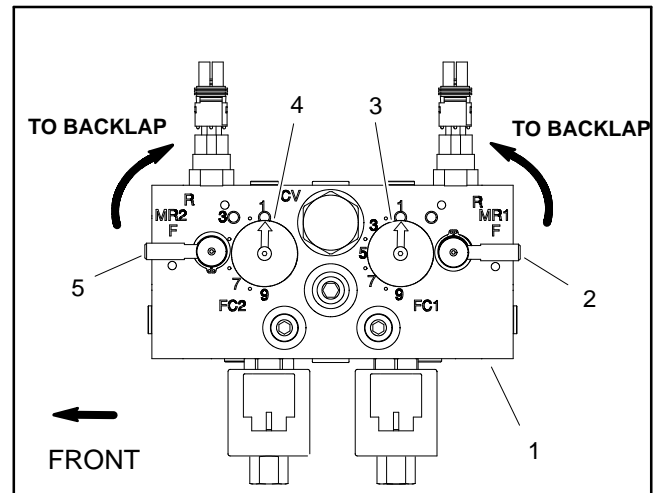

Figure 17
3. Raise seat, locate hydraulic mow control manifold and rotate directional valve lever fully to the R (backlap) position (Fig. 17). Rotate flow control valve knob to position 1.